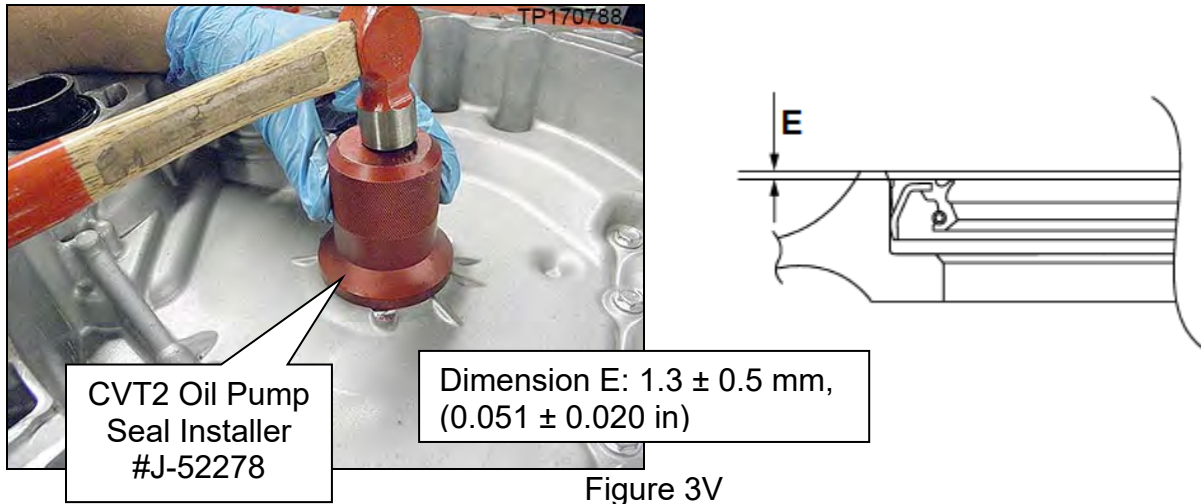

Figure 3V
3. Install the torque converter housing oil seal to the torque converter housing (Figure 3V).
- Drive the converter housing oil seal evenly so that converter housing oil seal sits below the case by dimension E as shown in Figure 3V.